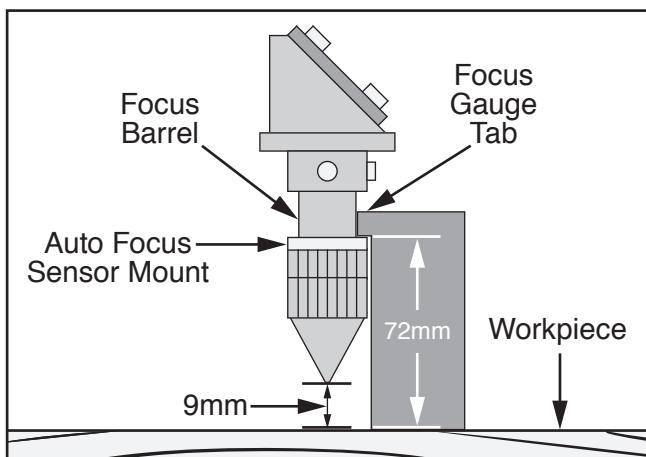

Figure 46. Focus gauge resting on workpiece and auto focus sensor mount.
8. Place bottom of focus gauge on workpiece, and raise or lower table using left and right arrow nav buttons (\leftarrow and \rightarrow) on control panel until tab on focus gauge rests on top of auto focus sensor mount (see **Figure 46**).